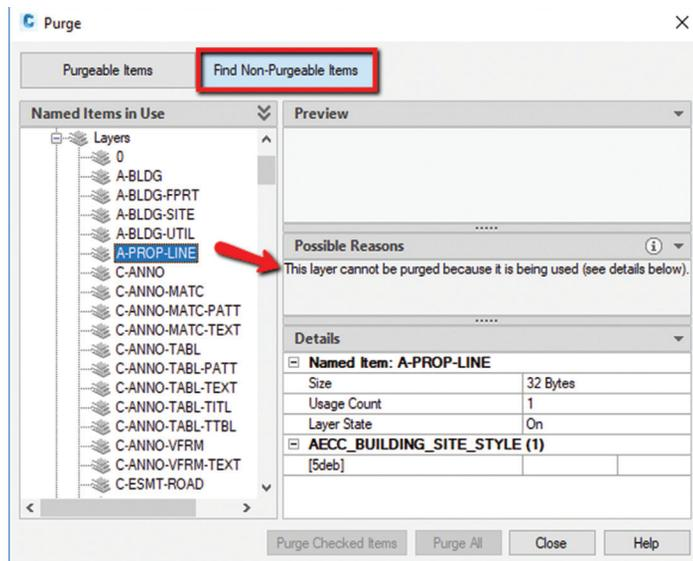

Figure 3
- Purge Redesign:** The Purge feature has been redesigned for easier drawing cleanup. Remove multiple unneeded objects at once with easy selection and a visual preview area. There is a “Find Non-Purgeable Items” button with a Possible Reasons section, to understand why certain items can’t be purged (Figure 3).